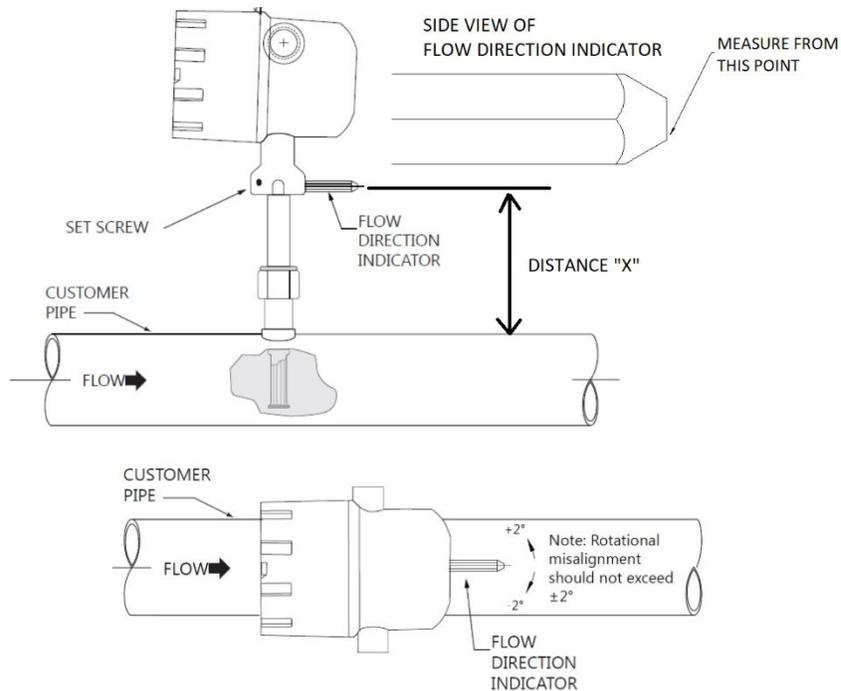

Figure 6: Meter Inserted into Pipe
- For insertion type meters - insert the meter sensing tube into the tube fitting. Using Table 1 and Figure 6, center the meter's sensing element in the pipe by setting distance "X" (distance from the outer diameter of the pipe to the bottom of the pointer edge). This can be done carefully with a tape measure. Ensure that the pointer on the flow meter is pointing in the direction of flow.
Note: Once the “nut” end of the tube fitting is tightened, the stainless steel ferrules will swage or bite into the meter’s probe. This swaging is permanent - ferrules are extremely difficult to remove from probe after swaging. Make absolutely sure that distance “X” shown in Figure 6 above is set correctly before the tube nut is tightened.
12. Install the flow meter per Figure 6, ensuring that the flow direction indicator is pointing in the direction of flow +/- 2 degrees. The insertion depth for the meter probe is pre-set for the inline meters. Tighten the tube nut hand tight, and then use the 1-1/8" open end wrench to tighten the tube nut approximately 1/3 to 1/2 a turn (120 to 180 degrees) beyond hand tight. The flow meter is now installed into the spool piece
13. It may be necessary to rotate the housing of the flow meter relative to the flow direction indicator. To do this loosen both of the 2.5mm set screws and unscrew (remove) the hexagonal flow direction indicator using the 8mm open end wrench. These pieces are detailed in Figure 6. Rotate the housing +/- 90 degrees or 180 degrees. Do not spin the housing around completely (360 degrees repeatedly) due to wires connecting the probe to the housing. Re-install the flow indicator and then tighten set screws.